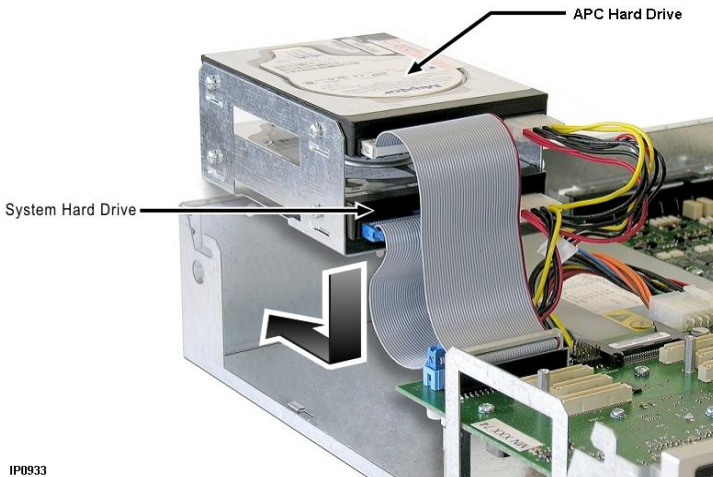

Figure 64: Connecting cables to APC-CX(i)
6. Connect the power and IDE cables to the corresponding connectors on the hard drive and main board. The cables are keyed for proper connection (see Figure 64).